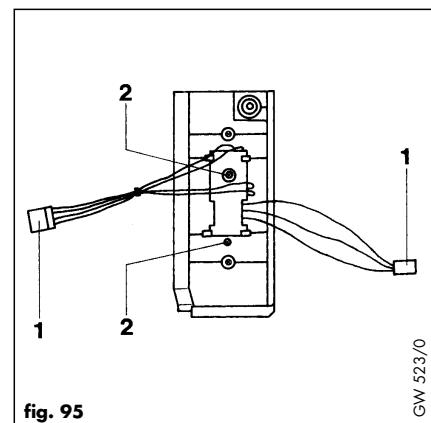

fig. 95
- Unplug two leads (1, fig. 95) from the mother board.
- Remove two screws (2, fig. 95) and remove rectifier board.